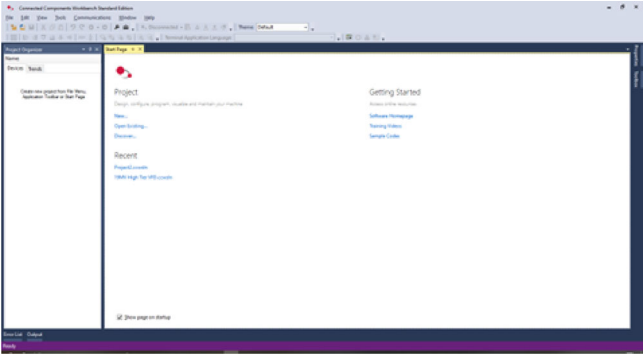

Fig. 27 — CCW Discover Device
- 4. Once the communication driver is set up, select Discover in CCW and select the appropriate device. See Fig. 27 and 28.